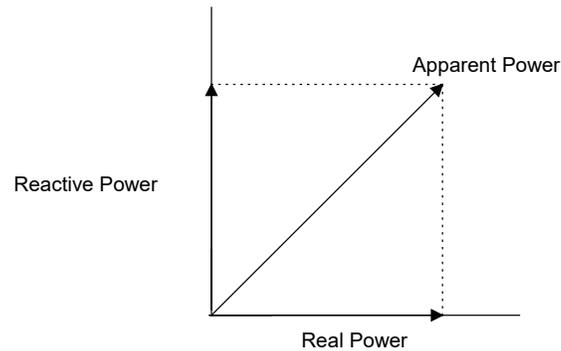

Figure 1 – Power Triangle
| FIGURE 1 – POWER TRIANGLE | 5 |
The apparent power unit is volt-ampere (VA) and is the vector sum of the real and reactive power vectors in the power triangle (Figure 1)
- 4.6 **Power Factor:** the ratio of the real power to the apparent power required to operate a device (see Figure 1). Power Factor may be measured directly (from a power analyzer) or it may be calculated using the following relationship (refer to Eq. 1 and Eq. 2)